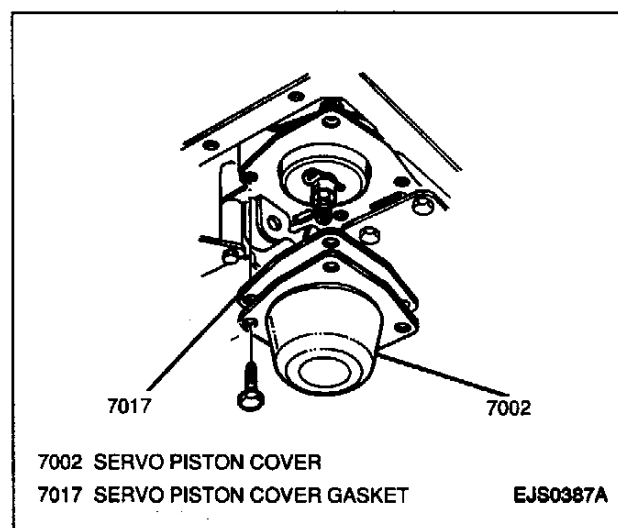

Figure 47—Installing Servo Piston Cover and Gasket (3L30, 3-Speed)
- 12. New servo piston cover gasket and servo piston cover onto transmission case; secure with four bolts (Figure 47).